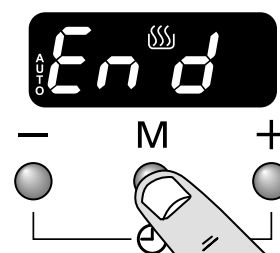

Fig. 5.4
1. Press the mode [M] button 3 times, until the display flashes 'End' (**Fig. 5.4**).